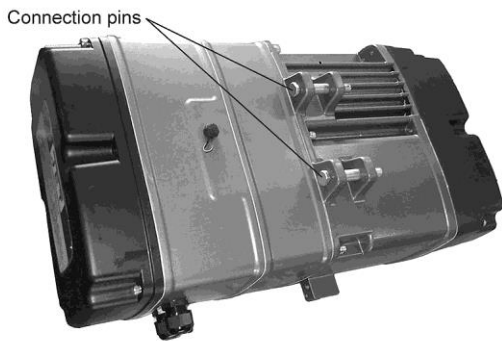

Figure 6-3
- Align tabs on top of hoist (Figures 6-3,6-4) to holes on underside of trolley. Secure with the existing pins, washers and hex nuts.